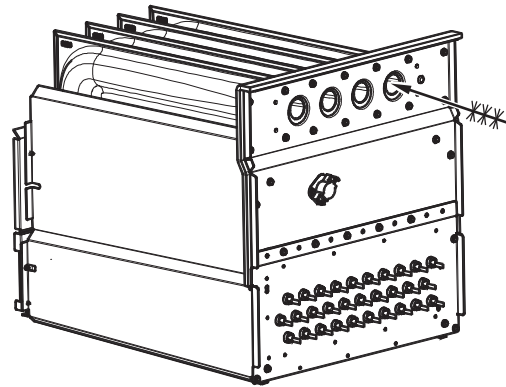

Fig. 69 - Cleaning Heat Exchanger Cell
7. Clean heat exchanger openings with a vacuum and a soft brush. See Fig. 69.